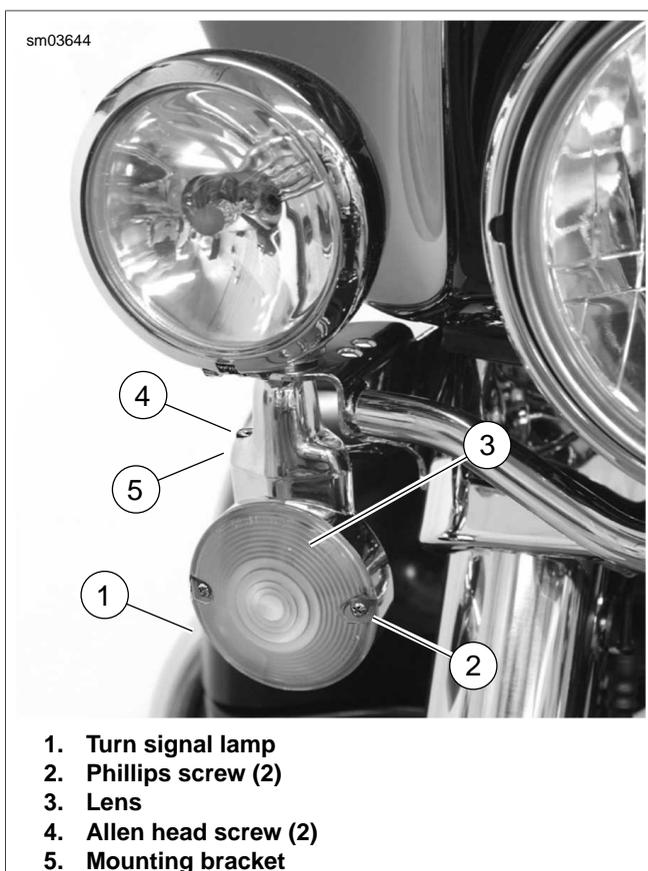

Figure 8-46. Front Turn Signal Lamp (FLHR/C, FLHT/C/U)
- FLHR/C, FLHT/C/U:** Remove two screws to release lens from lamp. See Figure 8-46.
- See Figure 8-46. Remove two screws to release turn signal lamp from mounting bracket.
- See Figure 8-46. Start two screws to secure turn signal lamp to mounting bracket. Verify that conduit fits in slot at back of bracket and is not pinched. Alternately tighten screws to 30-60 **in-lbs** (4.1-6.8 Nm).